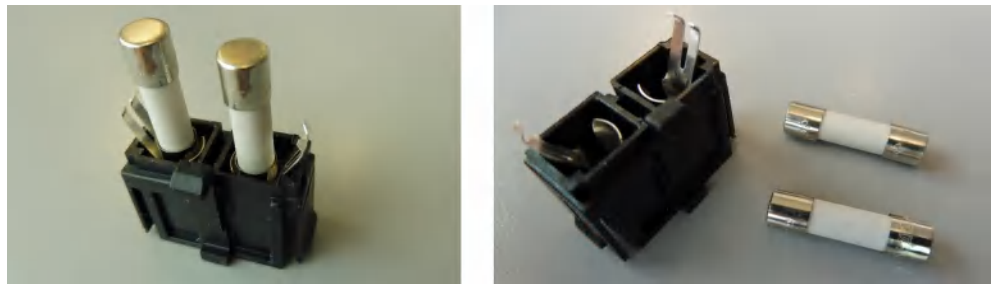

Figure 12-2: Replacing the fuses
6. Remove the fuses from the fuse holder as in Figure 12-2.